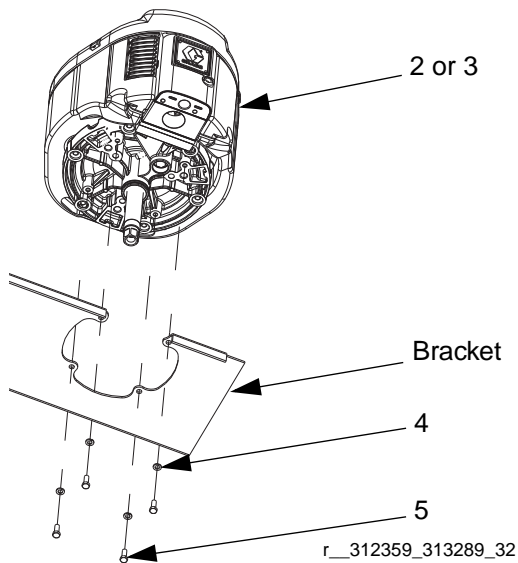

FIG. 7
- b. Remove mounting screws (5) and washers (4) holding air motor (2 or 3) to mounting bracket. See FIG. 7 on page 26.